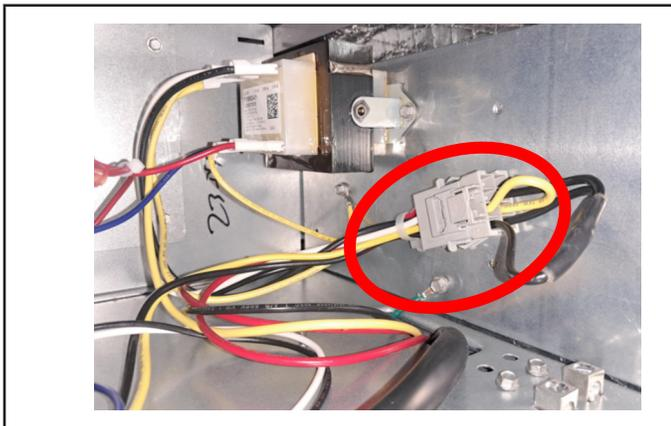

FIGURE 26. Converting Unit from 230VAC to 115VAC
- 2 - Unplug the 230V factory installed jumper plug harness from the 8-pin gray jack plug and discard. SEE FIGURE 26.